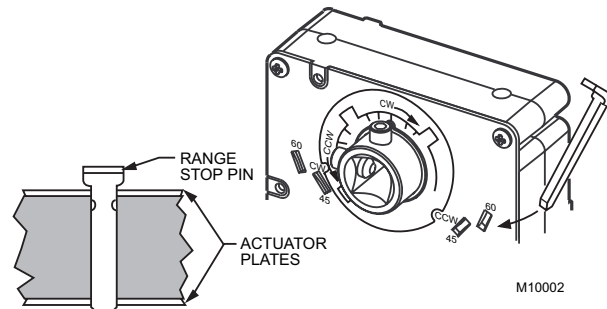

Fig. 7. Properly inserting range stop pin.
1. If the damper rotates clockwise (CW) to open, and the angle of the damper open to closed is 90 degrees, manually open the damper fully to the clockwise direction and mount the W7751H to the VAV damper box and shaft. Tighten the Allen set screws. The part no. 201614 Range Stop Pin, which is shipped with the W7751H Smart VAV Actuator, is unnecessary. When the W7751H closes, the damper rotates CCW 90 degrees to fully close.
2. If the damper rotates clockwise (CW) to open, and the angle of the damper open to closed is 45 or 60 degrees, manually open the damper fully to the clockwise direction and mount the W7751H to the VAV damper box and shaft. Tighten the Allen set screws. Insert the part no. 201614 Range Stop Pin, which is shipped with the W7751H Smart VAV Actuator, in either the 45 or 60 degree CCW slot, whichever applies (see Fig. 7). The range stop pin must go all the way through the housing. The pin can only be installed in the CCW slots when the actuator is in the CW position. When the W7751H closes, the damper rotates CCW either 45 or 60 degrees to fully close.
degree CW slot, the damper actuator must be driven fully open (CCW). To do this, the controller on the W7751H must be wired, powered, and connected to the portable PC via the Serial LonTalk® Adapter (SLTA). The SLTA connects to the controller on the W7751H via the jack for Network Access on T7770 Wall Module or by the B-Port on the Q7750A Zone Manager. From E-Vision Software, drive the actuator on the W7751H fully CCW, and insert the range stop pin in either the 45 or 60 degree CW slot, whichever applies (see Fig. 7). The range stop pin must go all the way through the housing. The pin can only be installed in the CW slots when the actuator is in the CCW position. (Disconnect the portable PC once programming has been completed.) Manually open the damper shaft fully (CCW) and then tighten the Allen set screws. When the W7751H closes, the damper will rotate CW 45 or 60 degrees to fully close.